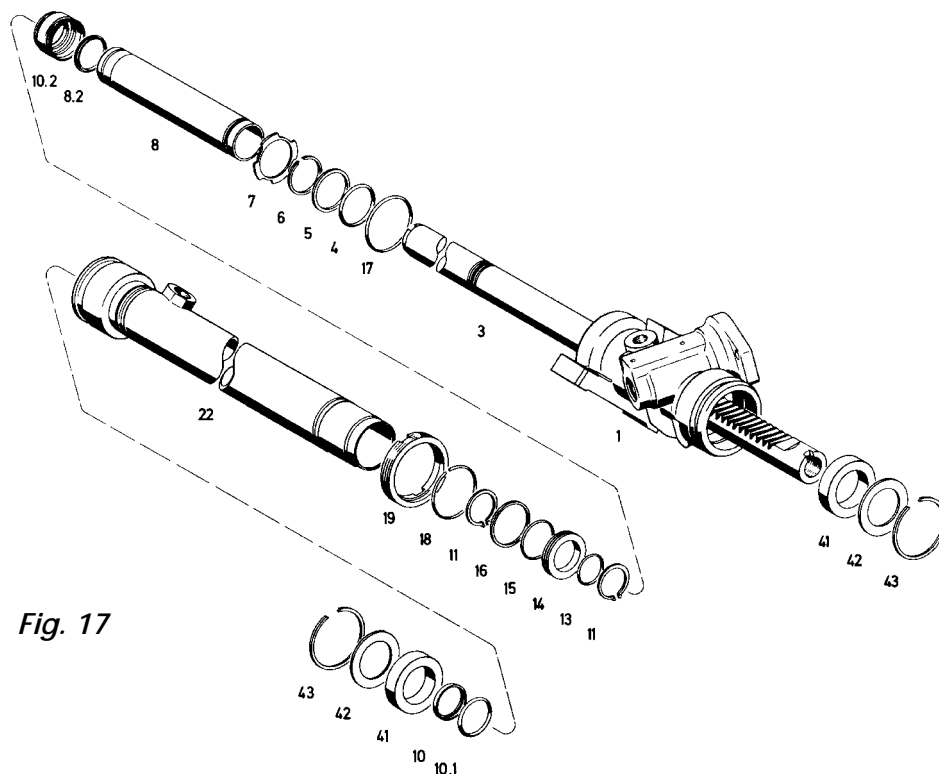

Fig. 17
Fit the support ring (8.2) into the recess of the spacer tube (8) (*Fig. 17*).